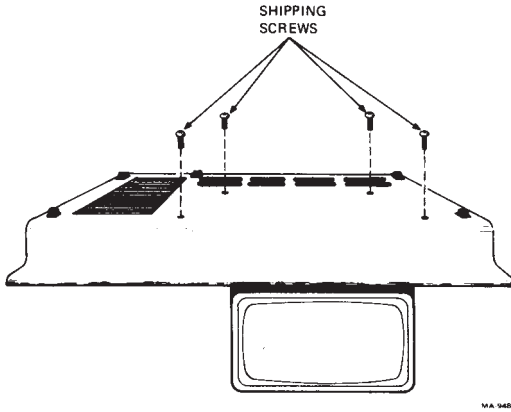

Figure 2-9 Shipping Screws
4. Turn the terminal upside down (Figure 2-9). Remove the four shipping screws (if installed) securing the bottom cover to the chassis. Discard the screws.